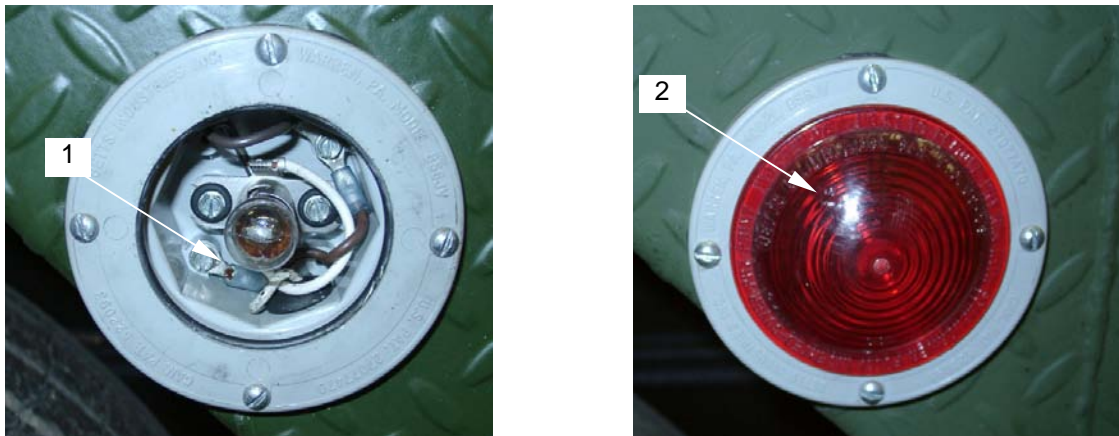

Figure 8. Rear Light Fixture
19. Connect wiring (**figure 8, item 1**) in light fixture.
20. Install cover (**figure 8, item 2**) on light fixture.